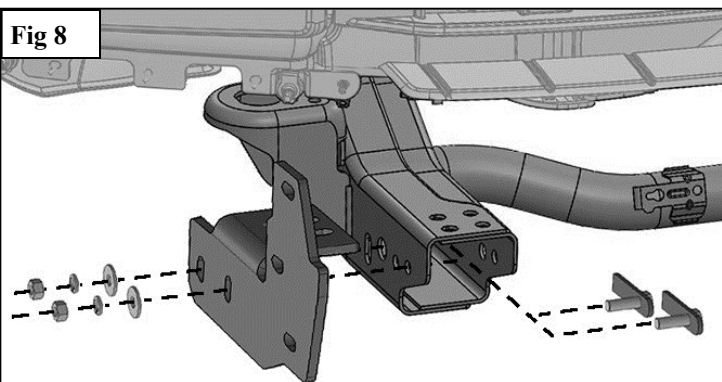

Fig 8
6. Next, select the passenger/right Frame Bracket (2). Slide the Bracket over the end of the frame. Line up the slots in the side of the Bracket with the holes in the outer side of the frame. Select (2) 12mm Bolt Plates (item 10). Insert the M12 Bolt Plates (item 10) into the open end of the frame and out through the Bracket. Attach the Bracket to the Bolt Plates with (2) M12 Flat Washers (item 13), (2) M12 Lock Washers (item 15) and (2) M12 Hex Nuts (item 14), (**Figure 8**). Leave loose at this time.